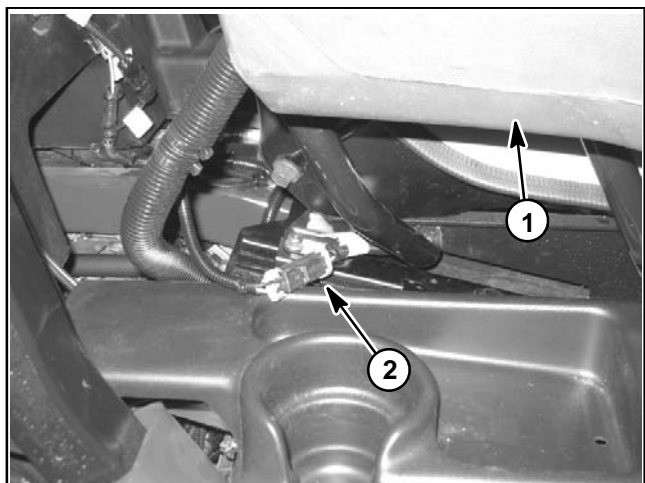

Figure 56
4. Disconnect seat switch wire harness connector from machine wire harness at rear of operator seat (Fig. 56).